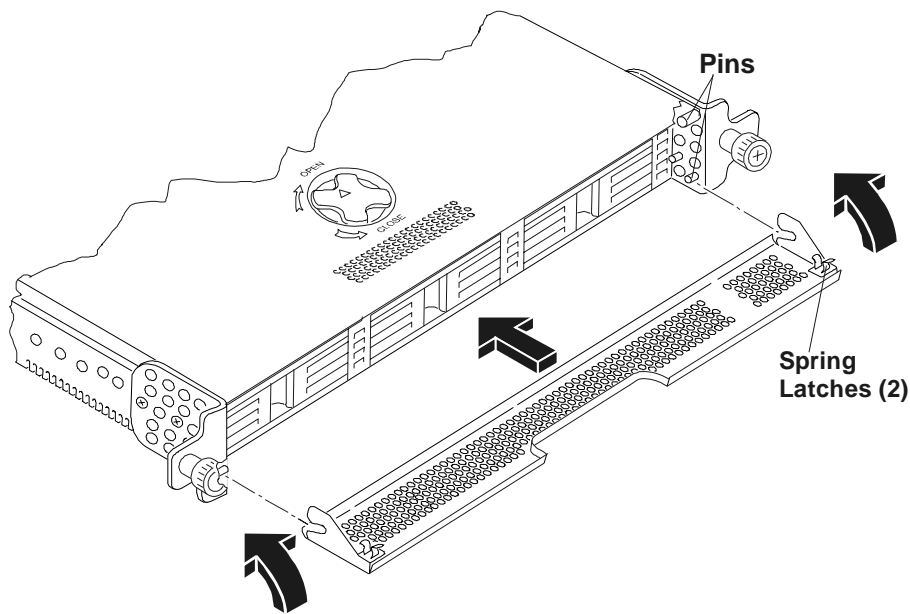

Figure 7-8. Installing the Bezel
1. Position the Bezel in front of the HP Netserver LP 1000r as shown in Figure 7-8.